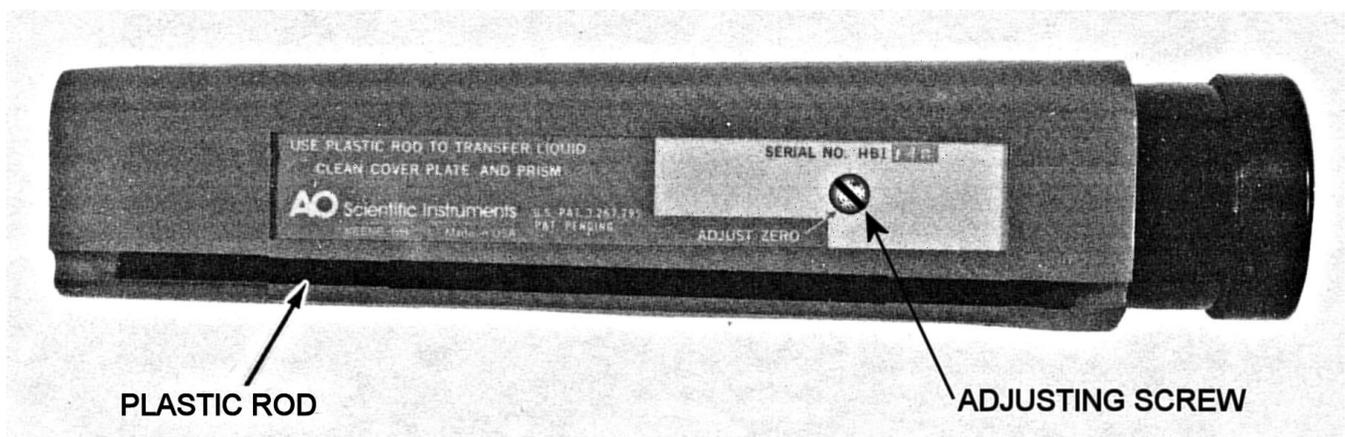
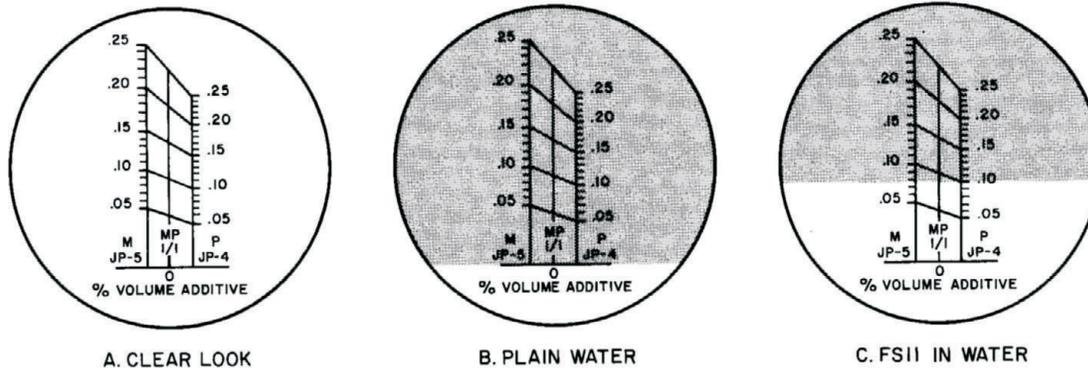

Figure 1-15.—Refractometer (bottom view).
Figure 1-16.—Views through a refractometer.
9. If a reading of zero cannot be obtained, remove the black plastic rod from the back of the refractometer and adjust the set-screw (on the bottom of the refractometer) until the shadow line meets the zero line of the scale. See figures 1-15 and 1-16. By adjusting the setscrew (fig. 1-15) until you read zero, you have made the refractometer ready to compare the FSII in the fuel to the scale inside the refractometer (fig. 1-16), and you have also calibrated the refractometer. NEVER use a metal screwdriver to calibrate the refractometer. The screwdriver may pass a static electrical charge onto the refractometer.
12. Open the hinged prism cover and place two or three drops of liquid (from the funnel) on the window using a clean (one that has not been used) piston pipet. Close the cover. Look through the eyepiece and read the point where the shadow line is on the scale. This gives you the percentage of FSII by volume. Make a log entry of your finding. Your readings should read two digits to the right of the decimal point: for example, .08, .04, .06, etc. See (fig. 1-16).